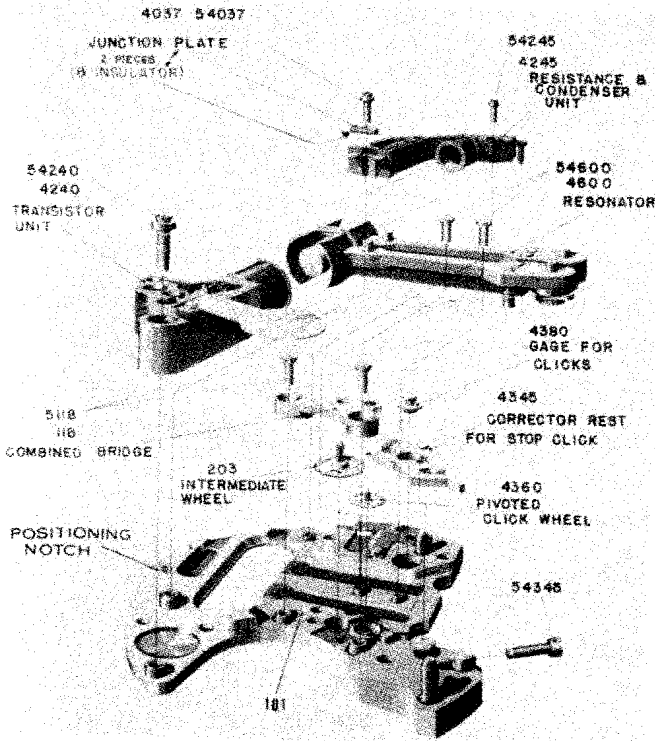

FIGURE 15
Place the module onto the movement holder (Figure 2B), so that its positioning notch (Figure 15) is fitted against the cylindrical post at the edge of the movement holder, shown in Figure 2B. Position the module securely into the holder by pressing on the steady pins of the module.
Refer to Figure 15 (exploded view). Remove the two screws (5118) and remove the combined bridge (118).
Place the click wheel (4360) in position (Figure 15). Take care not to upset the adjustment of the click mechanism. Now place the intermediate wheel (203) in position (Figure 15).
Next, place the combined bridge (118) in position (Figure 15). Make certain the click wheel pivots are in place, but do not touch this wheel with the positioning tweezers. Secure the bridge by means of its two screws.